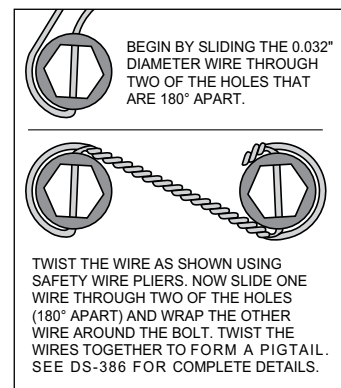

Figure 3
STEP 4 Orient the rotor (6) and the hat (7) as shown in Figure 1 and Photo 3. Attach rotor to hat using bolts (8) and washers (9). Apply red *Loctite*® 271 to the bolt threads and torque to value shown in Figure 1 using a criss-cross pattern. For an added measure of security, the bolts may be safety wired using standard 0.032 inch diameter stainless steel safety wire as shown in Figure 3. Refer to Wilwood's data sheet DS-386 (available at www.wilwood.com/Pdf/DataSheets/ds386.pdf) for complete safety wire installation instructions.